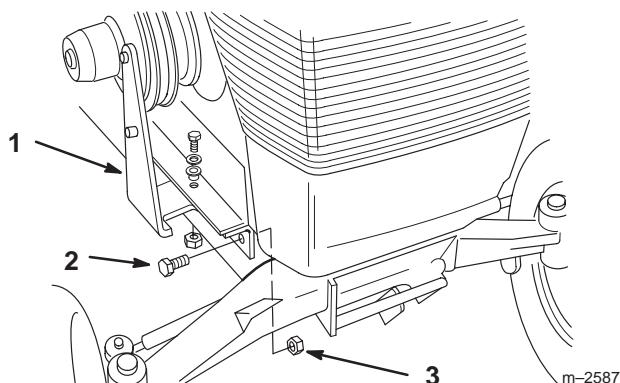

Figure 7
3. Install belt guard bracket to tractor frame with (2) 3/8 x 2” bolts and 3/8” locknuts (Fig. 7).